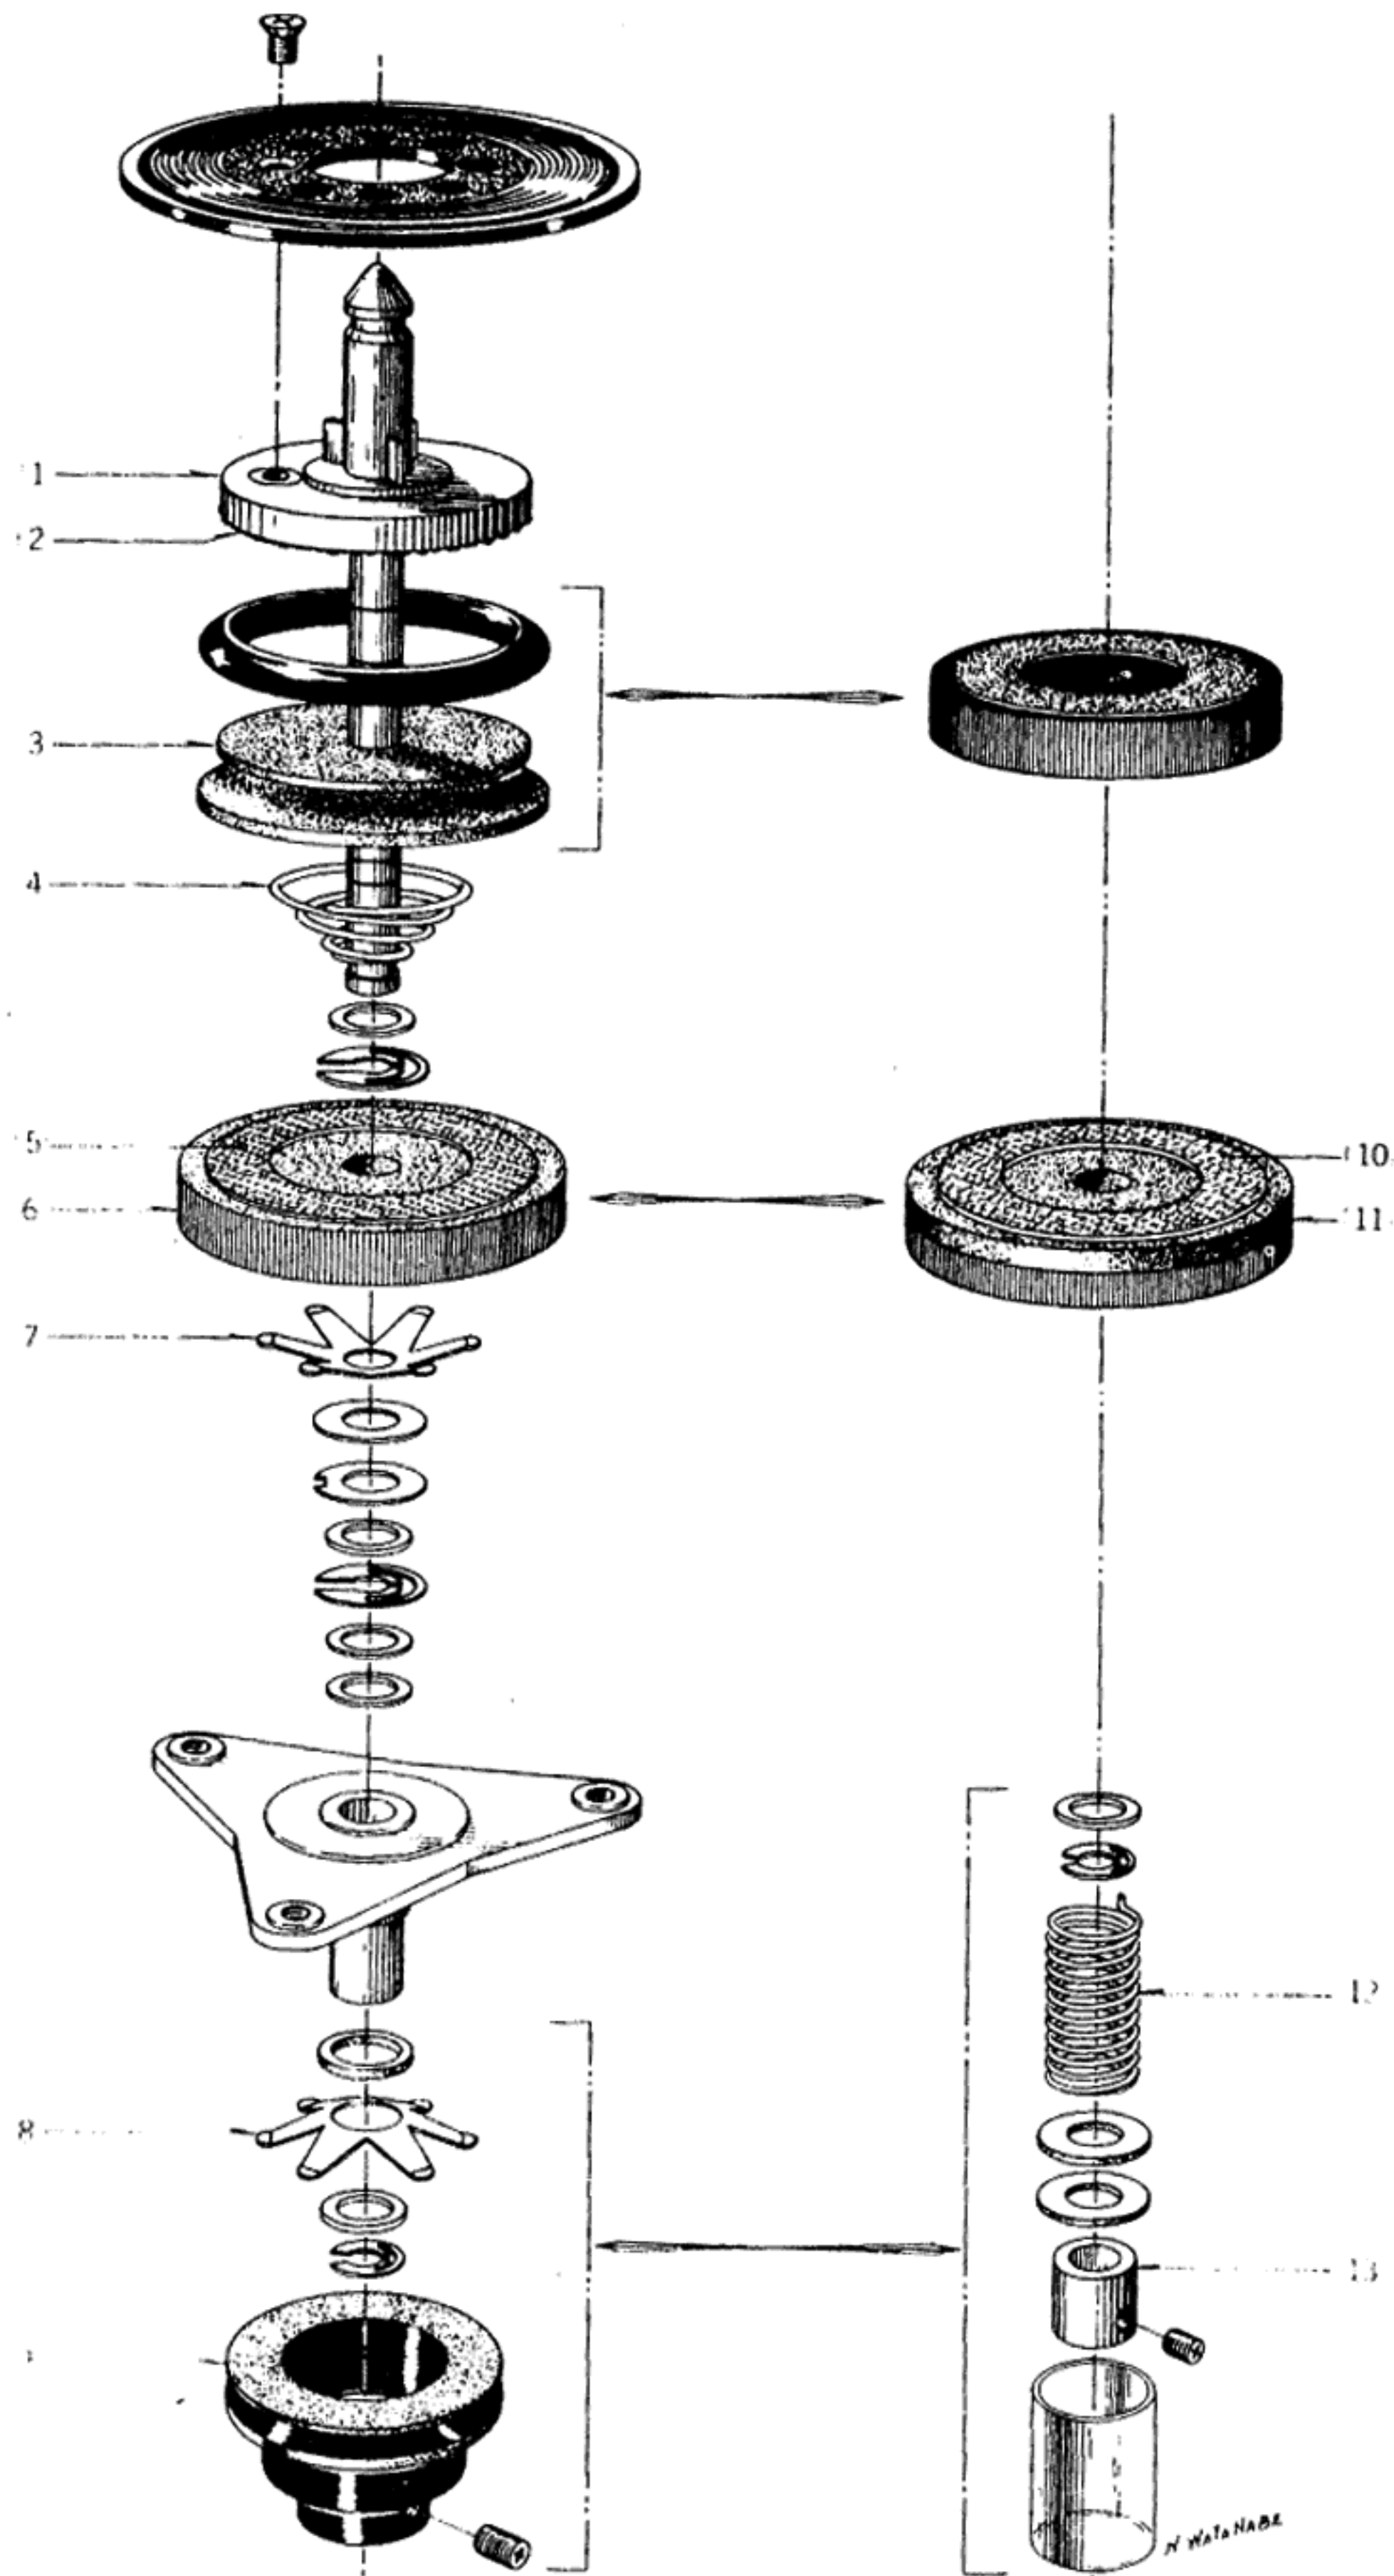

Fig. 7
2. SUPPLY REEL SHAFT ASSEMBLY ADJUSTMENT (See Fig. 7 at left)
3. TAKE-UP REEL SHAFT ASSEMBLY ADJUSTMENT (See Fig. 7 at right)